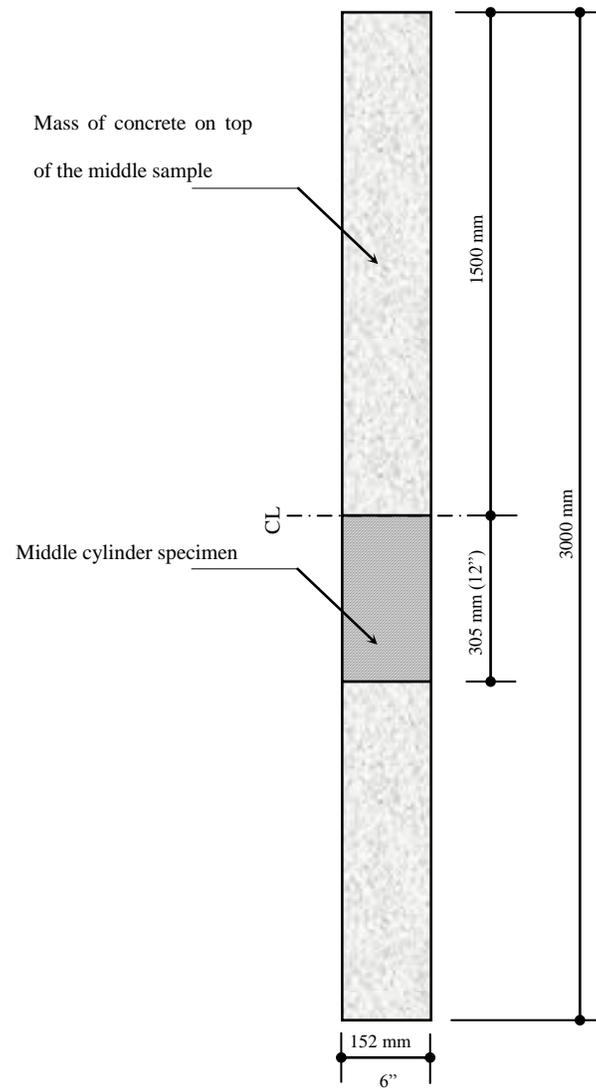

Figure B1: Position of the 6 by 12 inch middle concrete sample along the length of a 3 meter high concrete column
- Total height of concrete above the 305 mm (12 in.) tall sample at the middle of the column (Figure B1) equals: